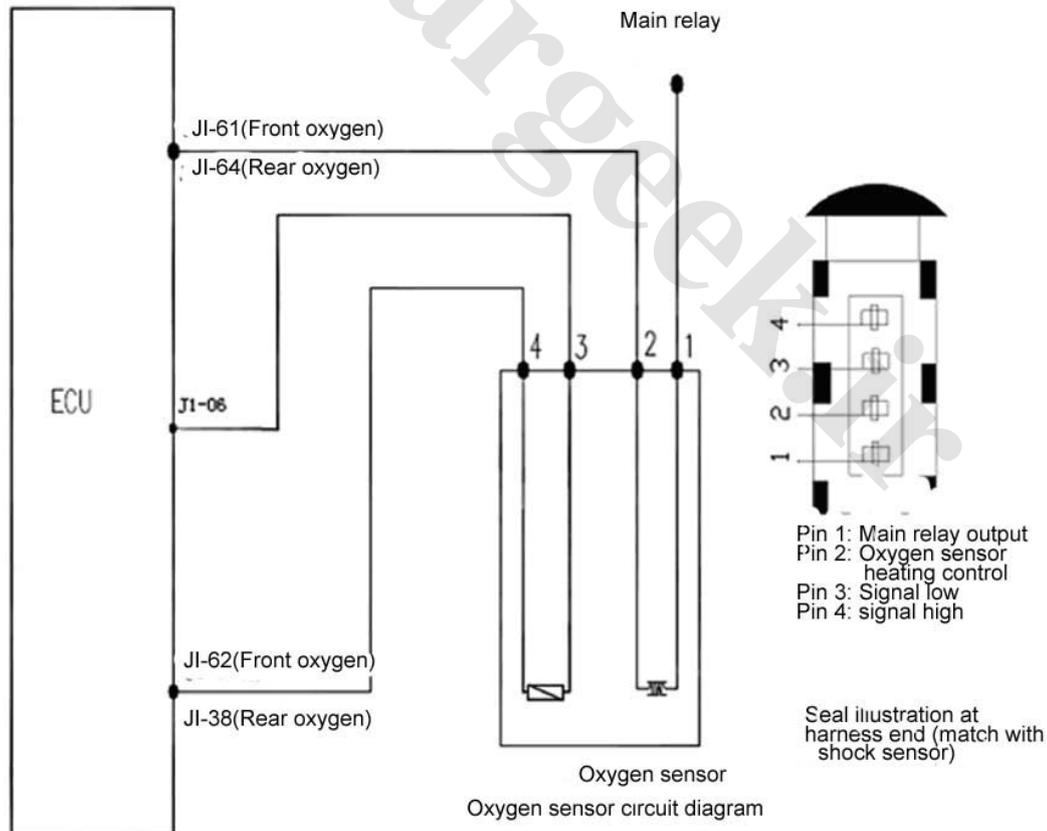

Fig. 1-9
(1) Function: To provide the information that whether oxygen in the cylinder is too high after the fuel is burned with the air in the cylinder. With this information, the ECU can carry out closed loop control for the fuel ration. Therefore, the three main toxic elements (HC, CO, and NOX) of the engine exhaust can be best converted and purified in the three-way catalytic converter.
(2) Structure and principle: The sense element of the oxygen sensor is a ceramic pipe with holes and gaps. The pipe is surrounded by engine exhaust and the air flows within the pipe. The ceramic pipe wall is a kind of solid electrolyte with electric heating tube inside, which begins work when the ceramic pipe has been heated to 300°C (a feature of a solid electrolyte). With such a special material, the oxygen ions can freely go through the ceramic pipe. Then, the concentration difference of the mixture will be converted into potential difference, which will be put out in the form of electric signal. If the concentration of the mixture is relatively high, the concentration difference of the oxygen ions inside and outside the ceramic pipe will be relatively high, and the potential difference will be relatively high as well. At the same time, a lot of oxygen ions will move to the outside from the inside, and the voltage output will be relatively high. If the concentration of the mixture is relatively low, the concentration difference of the oxygen ions inside and outside the ceramic pipe will be relatively low, and the potential difference will be relatively low as well. At the same time, little oxygen ions will move to the outside from the inside, and the voltage output will be relatively low. The working voltage of the oxygen sensor fluctuates from 0.1V to 0.9V, which will be changed for 5-8 times within 10 seconds. In case of lower than the changing frequency, the oxygen sensor shall be renewed, as it can not be repaired.
(3) Connection of wiring diagram: See oxygen sensor circuit diagram (Fig. 1-9)